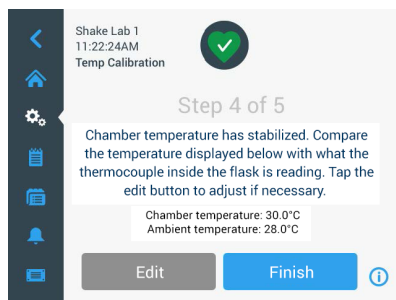

Figure 111: Calibration: Chamber successfully stabilized to calibration temperature
A stable state is indicated by the message **Chamber temperature has stabilized**, as shown in Figure 111 below.
- » As soon as the screen shown in Figure 111 is shown, compare the temperature reading of your thermocouple regularly. If you deem the temperature stable you can either tap the **Edit** button to correct or tap the **Finish** button to complete the calibration process.